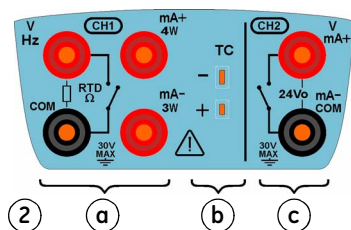

Figure 1-2: CH1/CH2 connections
2.	Channel 1 (CH1) and channel 2 (CH2) connectors for electrical operations; see Figure 1-2 .